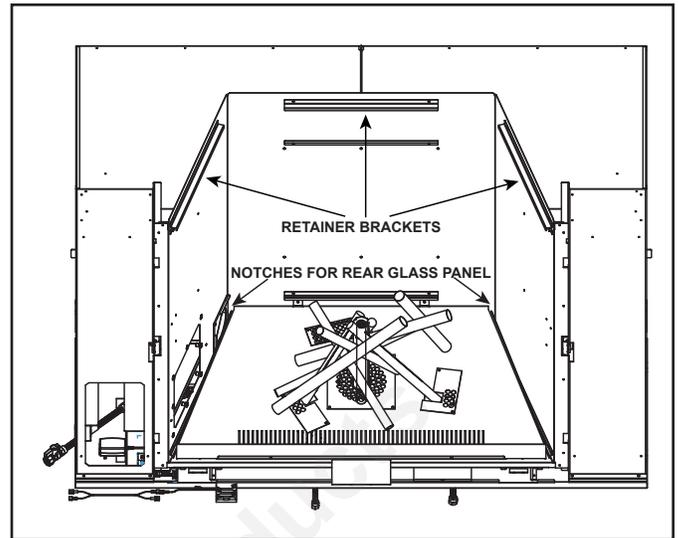

Figure 11.10 Remove Retainer Brackets
- Remove rear and side glass retainer brackets as shown in Figure 11.10. Retain fasteners for use in Steps 3-5.